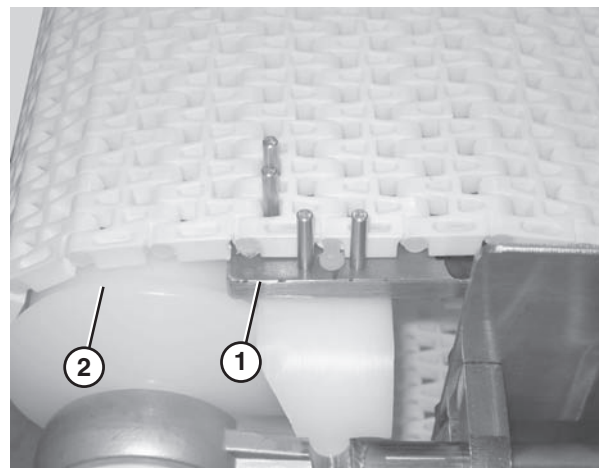

Figure 54
2. Secure the retaining head side of the belt. Use the belt removal tool (Figure 54, item 1) for 1" pitch belts. For all other belts, position the section of belt so that it is braced by the flanged puck (Figure 54, item 2).